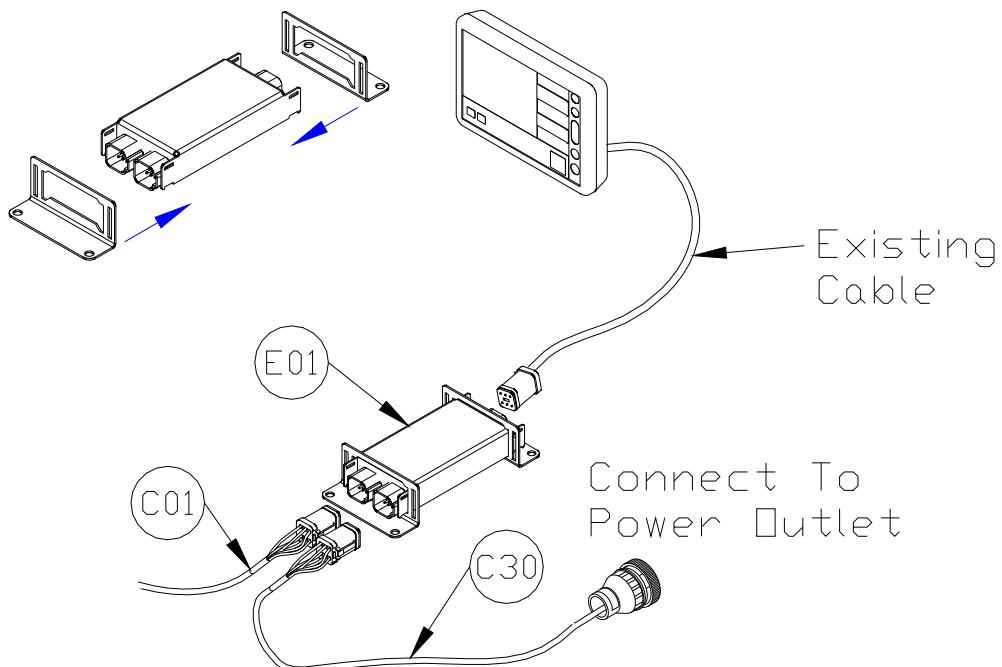

Figure 18: Control Module Mounting
1. Refer to **Figure I** and **Figure 18**.